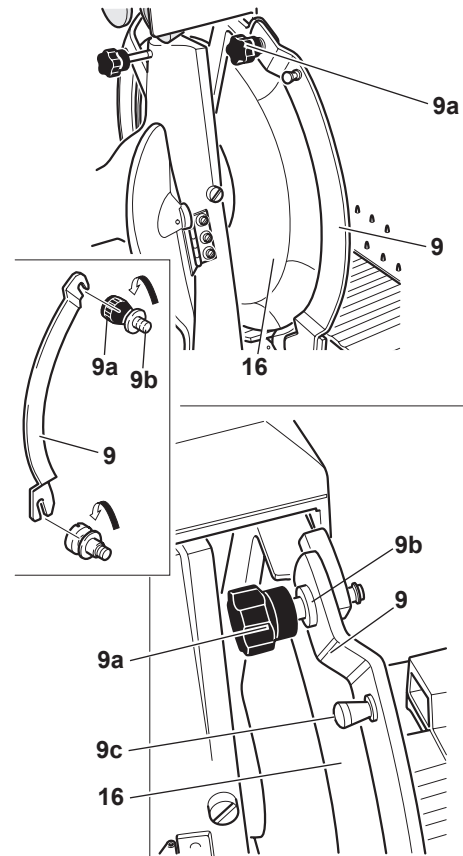

Figure 19-2
**ALWAYS** sharpen with the knife guard (9) securely in place.
3. Close the knife guard (9). Loosen, but do not remove the top and bottom knobs (9a) on the knife guard (9) (Figure 19-2).
5. Tighten the top and bottom knobs (9a) on the knife guard (9).